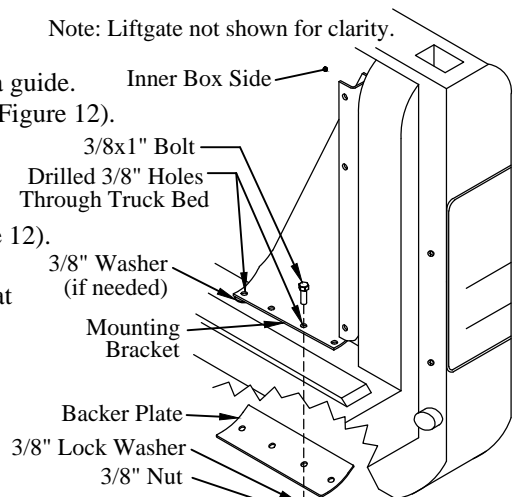

Figure 12: Mounting bracket and backer plate.
Choose two of the four holes provided with no obstructions on the underside (Figure 12).
- (2) 3/8"x1" hex head bolts on the top-side (Figure 12).
- (1) backer plate, (2) lock washers, and (2) hex nuts on the under-side (Figure 12).